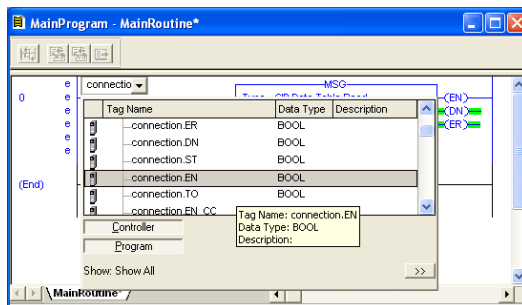

Figure 106: Configure XIO Element
- a) Double-click on the XIO element located to the left of the MSG block. In the drop-down box, double-click on the “connection.EN” field. Refer to Figure 106. This configuration causes the MSG instruction to automatically retrigger itself when it completes. While this is acceptable for the purposes of this example, it can produce high network utilization. In actual practice, it may be desirable to incorporate